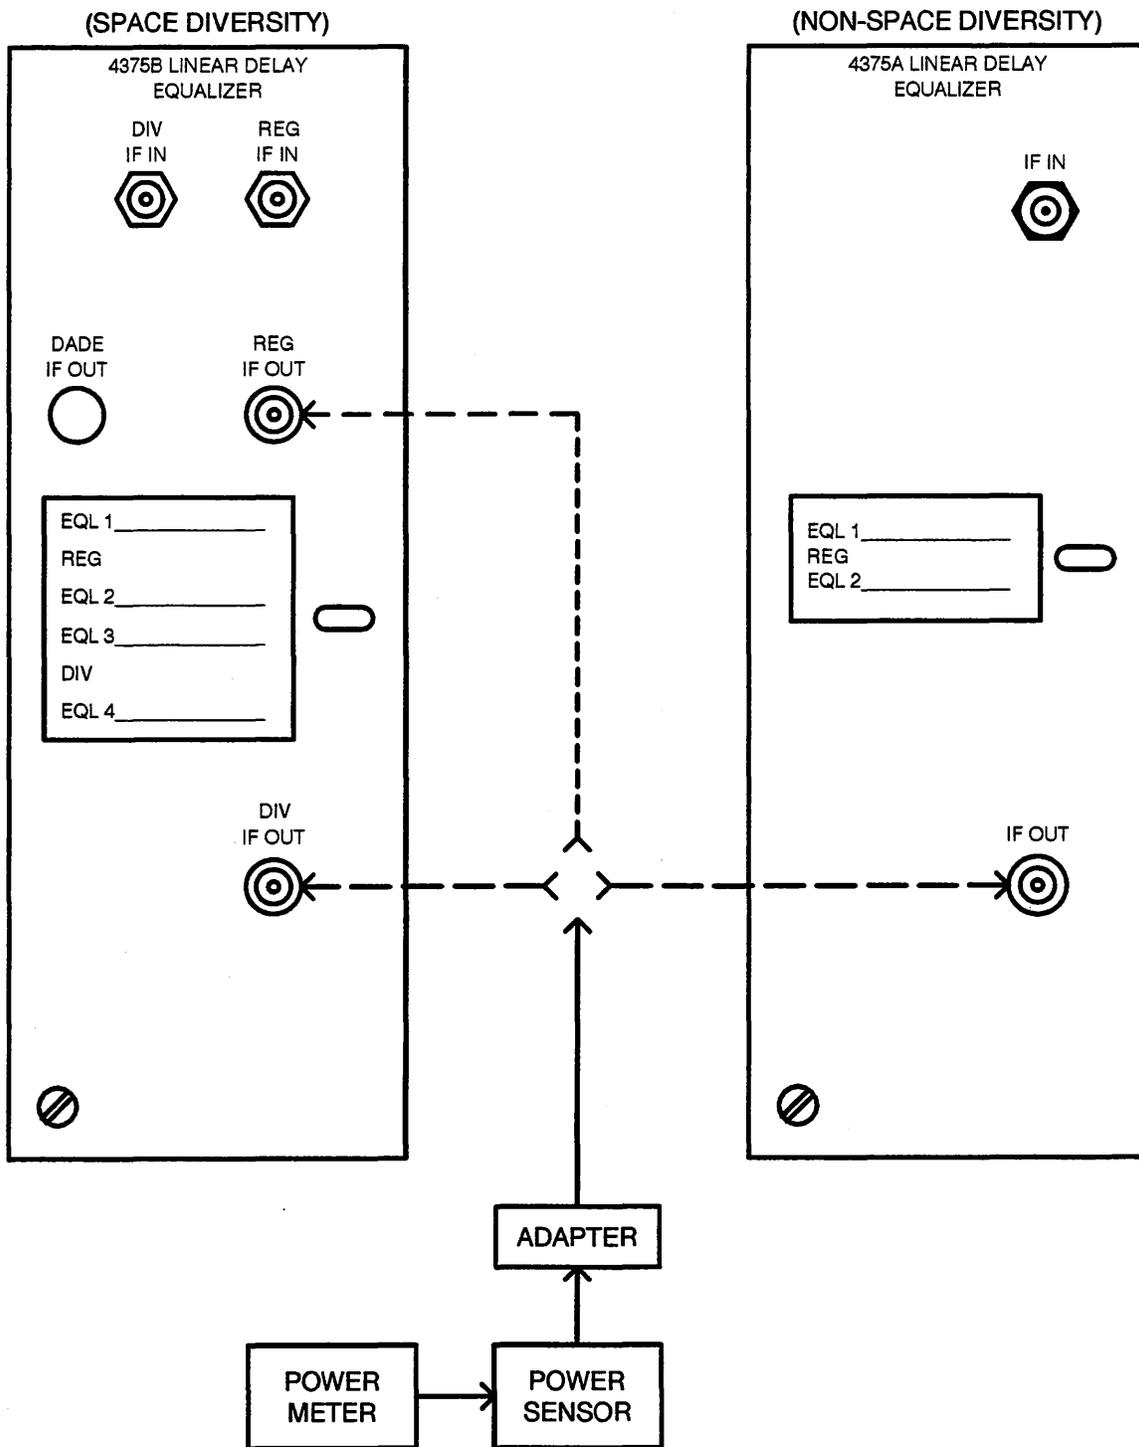

Figure 10-Linear Delay Equalizer Checks
- Refer to Figure 10.
3. Condition the power meter to measure the expected power level (nominal is  $-7$  dBm), and connect it to the IF OUT jack(s) on the LINEAR DELAY EQUALIZER unit (Figure 10).